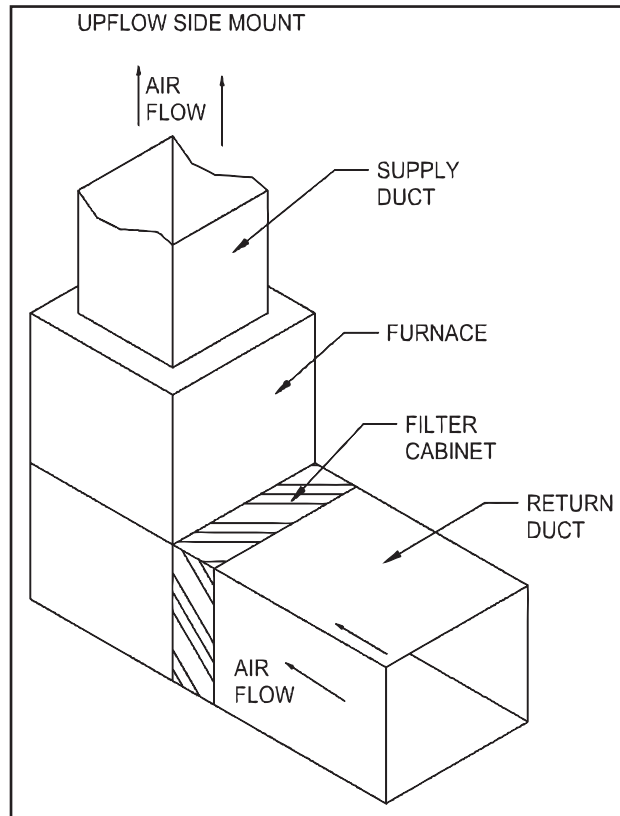

Figure 1
1. Refer to the typical mounting positions (Figures 1 to 5) for proper placement of the filter cabinet.
4. Position cabinet so access panel is available for easy media filter replacement. The access panel **MUST** be accessible to remove and replace the media filter. (**NOTE:** Minimum of twenty-six (26) inches for front clearance).
5. Position the filter cabinet onto return air side of the appliance (Figures 1 to 5). Duct transitions may be required to properly mount the filter cabinet.